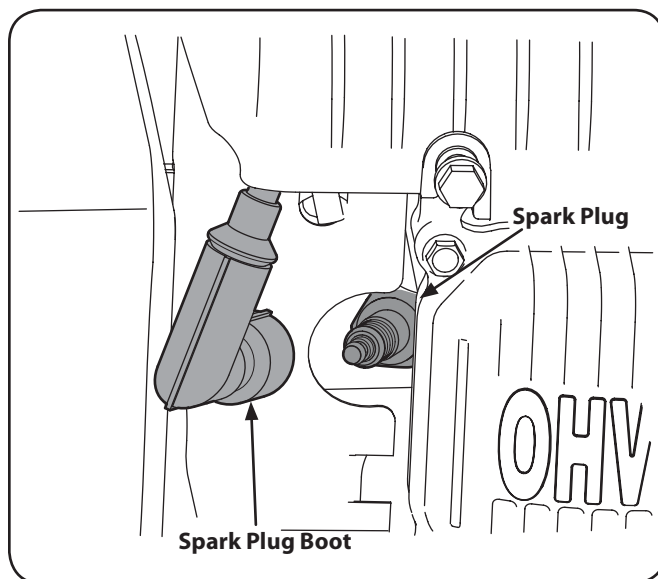

Figure 6-9
1. Remove the spark plug boot and use a spark plug wrench to remove the plug. See Fig. 6-9.